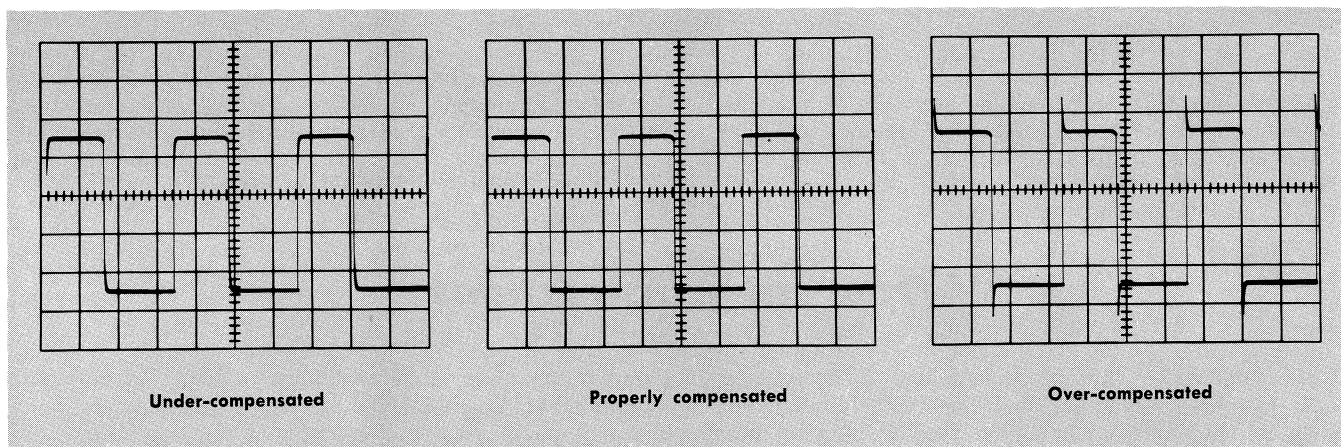

Fig. 2. Probe compensation waveforms.
2. Adjust the variable capacitor in the body of the probe for best square-wave response as shown in Fig. 2, center.
High-frequency distortion—where the high frequencies are attenuated or amplified more or less than the middle and low frequencies—will usually show up as undershoot or overshoot on a square wave, as shown in the "Under-compensated" and "Over-compensated" waveforms in Fig. 2. Low-frequency distortion—where the low frequencies are attenuated or amplified more or less than the middle and high frequencies—will usually show up as a slope in the top and bottom of a square wave. A certain amount of high-frequency distortion is normal beyond the specified upper-frequency limit of the amplifier, and a certain amount of low-frequency distortion is normal when you are displaying waveforms with very-low-frequency components and have the AC-DC-GND. switch in the AC position. It is only when this distortion becomes excessive in the normal frequency range of the instrument that it constitutes a trouble.